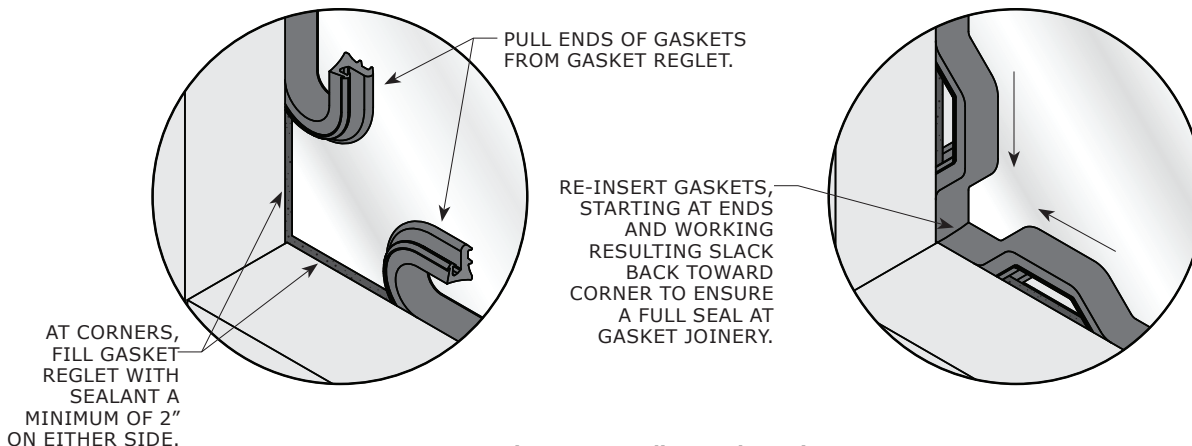

Figure 33: Sealing Gasket Joinery
7. Once all Gaskets are installed, pull ends of exterior horizontal and vertical Gaskets from their reglets at each corner and fill final 2" of horizontal and vertical glazing reglets with sealant. Push vertical Gasket back into reglet at corner, then do the same for the horizontal Gasket. Compress any slack back toward D.L.O. to fully seal horizontal Gaskets to vertical Gaskets. Immediately wipe away any excess sealant. Reference **Figure 33** below.